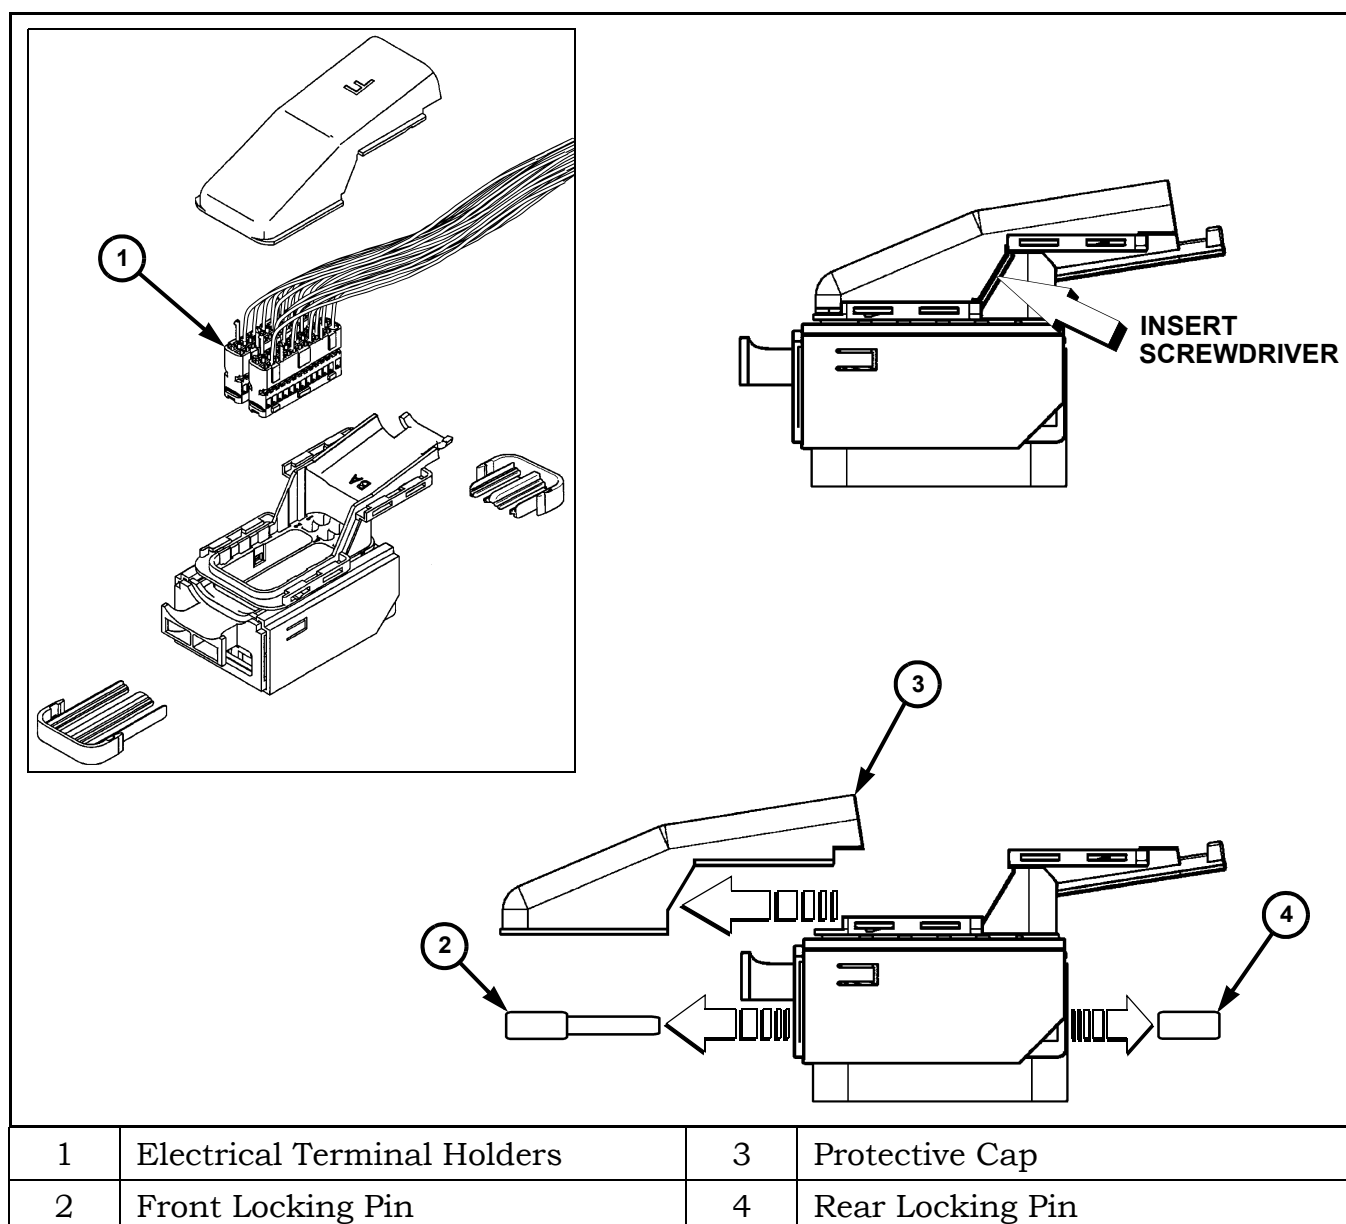

Figure 16 Vehicle Harness Connector Disassembly
16. Carefully disassemble the plug-in connector to expose the wire insertion end of the connector. Remove the protective cap by inserting a wide blade screwdriver in the wedged area between the connector housing and protective cap (arrow). Alternating between both sides of the connector, gently twist on the screwdriver handle to separate the protective cap from the connector housing. Slide the protective cap away from the housing (Figure 16).